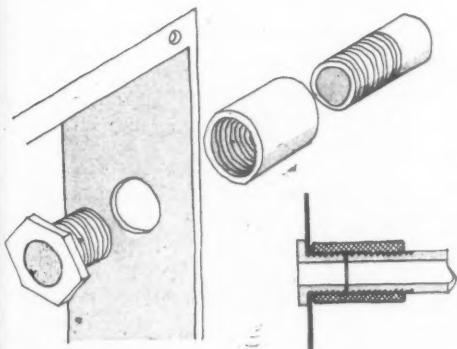

Fig. 7 (far left), method of connecting conduit to a sheet steel box.
**Outgoing conduits from the consumer's unit:** Several conduits will issue from the top of the consumer's unit, and it is most important that the connection of each should be made by means of a male brass bush and conduit coupler, as shown in Fig. 7. This is the preferred method for all conduit entries to sheet steel boxes, as was explained in the fifth article of this series, but it is especially important where several conduits enter from the same direction. This is because it is very difficult to arrange that all conduits are of the same length, to a tolerance of  $\frac{1}{8}$  in., and if the alternative method, using a female bush and hexagonal